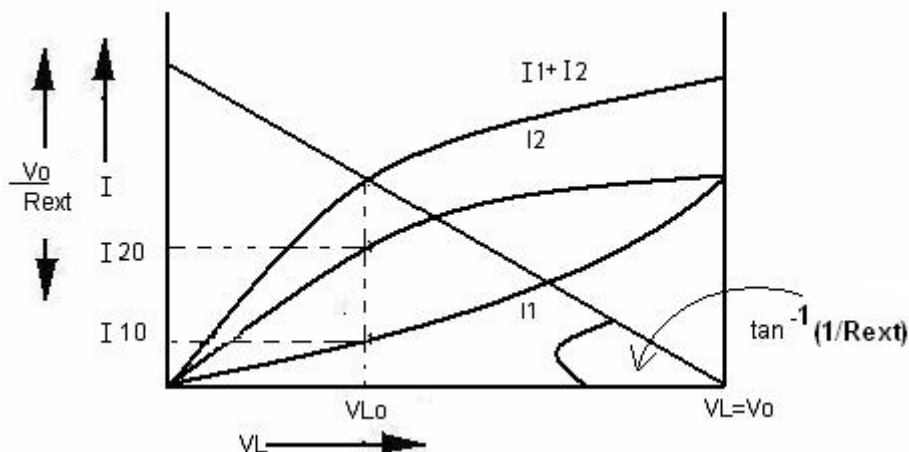

Fig 2: $V-I$ Characteristics and Load Lines for the circuit of Fig 1
Graph (Refer to Fig. 2)
3. The point of intersection of this load line with the resultant nonlinear characteristics determines the steady state condition of the circuit. Estimated values of I_1 , I_2 and V_1 are indicated in Fig. 2. Enter them in Table 2.